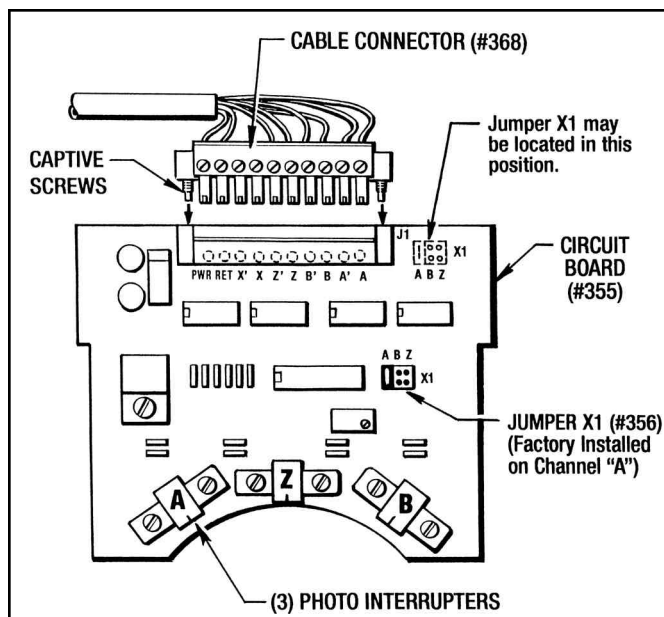

Figure 9.12 - Circuit Board Connector
11. Place the Cable Grommet (#260) and Cable (#259) into the upper slot and plug in the Cable Connector (#368) to the Circuit Board Connector and tighten the (2) Captive Screws in the Cable Connector. (See Figure 9.12)
12. Place the top Gasket (#19) on the Upper Enclosure and attach the Top Cover (#372) with (4) Screws (#225).